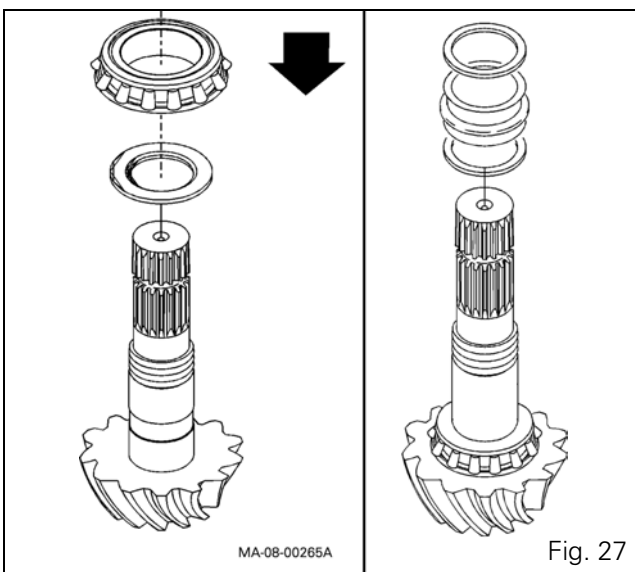

Fig. 27
38. After inserting the correct shim with its chamfer facing the pinion, force fit the bearing at the end of the pinion pin using tool ref. CA715433 (see § J) and a press, ensuring that it is seated correctly. Fit the shims and a new flexible spacer (Fig. 27).